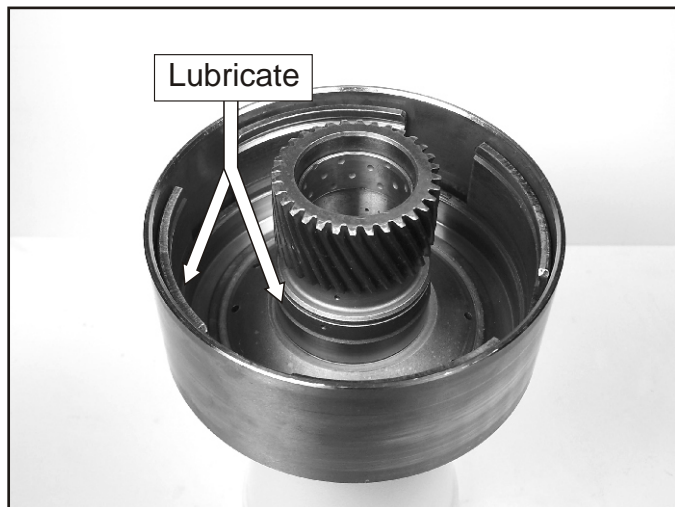

Figure 143
90. Lubricate the inside of the C3 drum in the areas shown in Figure 143.